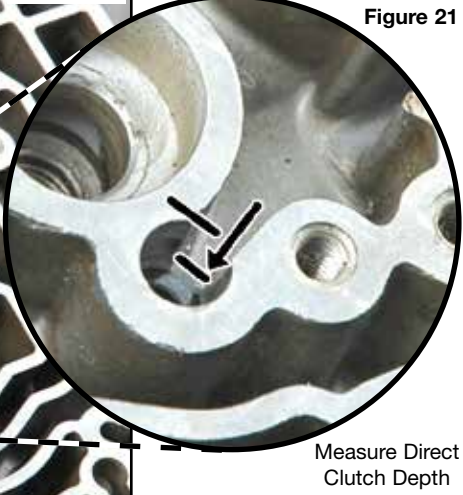

Figure 21
- If distance from valve body gasket surface to the cast passage (Figure 21) is more than .625", install Sonnax seal as-is.
- If distance from valve body gasket surface to the cast passage (Figure 21) is less than .625", cut nub off the side of the direct clutch seal (Figure 22).